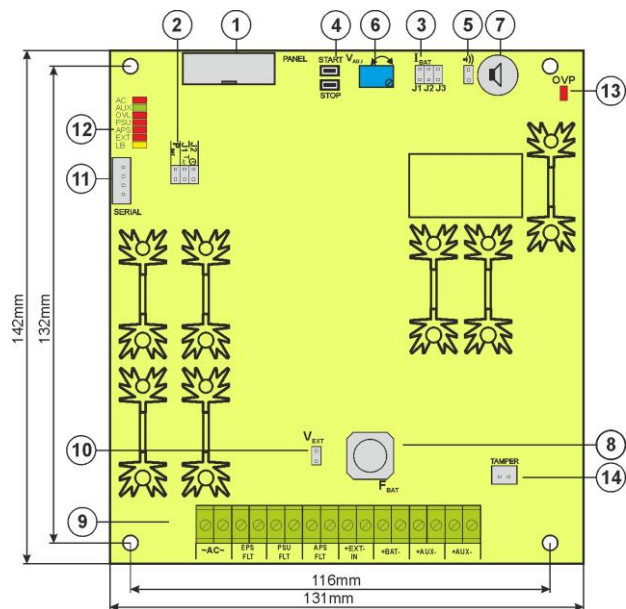

Fig. 2. The view of the PSU's PCB.
Table 1. Elements of the PSU pcb (see Fig. 2).
①	Insolation transformer
②	PSU board (see Tab.1, fig.2)
③	TAMPER ; micro-switch (contacts) of tamper resistance ( NC )
④	$F_{MAINS}$ fuse in the supply circuit (~230 V)
⑤	L-N power supply connector ~230 V,  protective connector
⑥	Battery connectors: positive: +BAT = red, negative: - BAT = black
⑦	Tamper grip